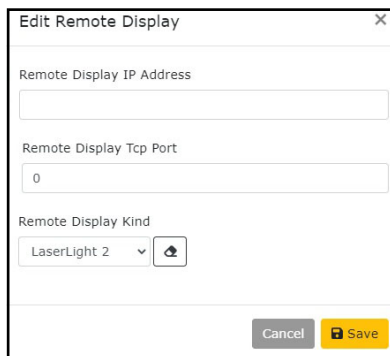

Figure 6-10. Edit Remote Display Window
- Select **Save** (see Figure 6-10 on page 36).